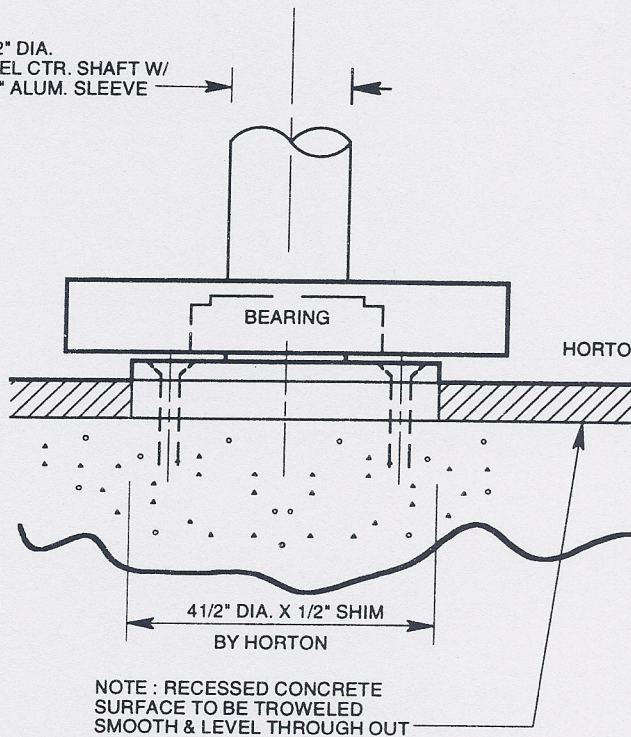

Figure 29 - Recessed Mat
- A. **ROUND PUSH BAR INSTALLATION** - Prep door wings (3'-9 7/8" from finish floor) for $1/4''$ -20 Thru Bolt & $1/4''$ -20 Cone Head Machine Screw (See Figure 29 above).
- A. When mats are installed, a 1/2" alum. shim must be placed below the center pivot. Shim should be installed at the same time that center pivot is installed (See Section 10 on G917.8). After center pivot & shim are in place, install mat sections prior to proceeding with installation of center shaft and door wings (Figures 29,30 & 31 on this page).